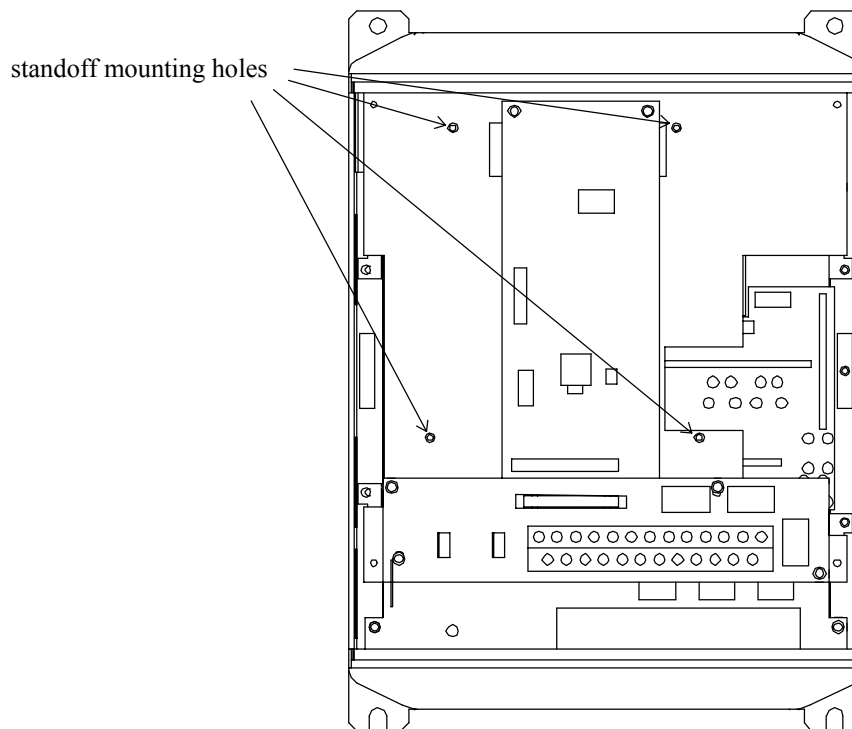

Figure 2: EIII with front cover and operation panel support bracket removed
5. Install the 4 nylon standoffs into the holes provided in the control board support bracket (refer to Figure 2).